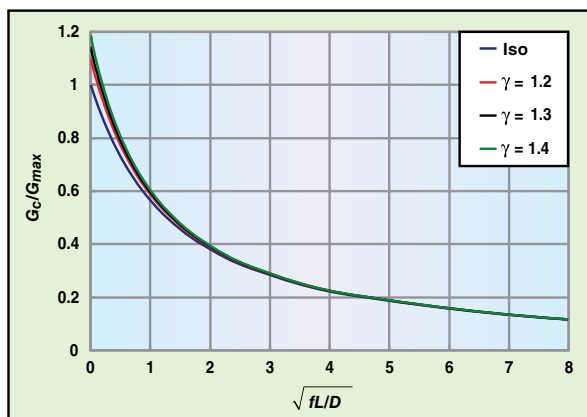

FIGURE 8. The ratio of critical mass flux to maximum mass flux as a function of pipe length varies with specific heat ratio
In Equation (35), Ma_{1a} can be calculated by solving Equation (13) at any fL/D and setting Ma_{2a} equal to one. Equations (31) and (35) are plotted in Figure 8 for three fluids with different specific heat ratios. At any pipe length, the ratio of critical mass flux of adiabatic flow to isothermal is given by Equation (36).